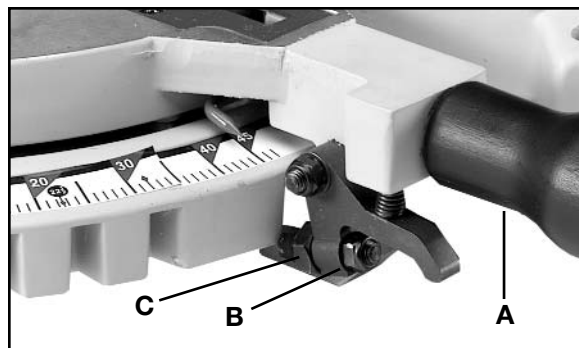

Fig. 32
3. Move the table to the 90 degree straight cut-off position. Make sure that the plunger (B) Fig. 32 is engaged in the 0 degree positive stop and tighten the lock handle (A) Fig. 32.
6. If an adjustment is necessary, loosen the lock handle (A) Fig. 32 one turn. Loosen locknut (B) and turn eccentric nut (C) right or left as necessary. Tighten lock nut (B).